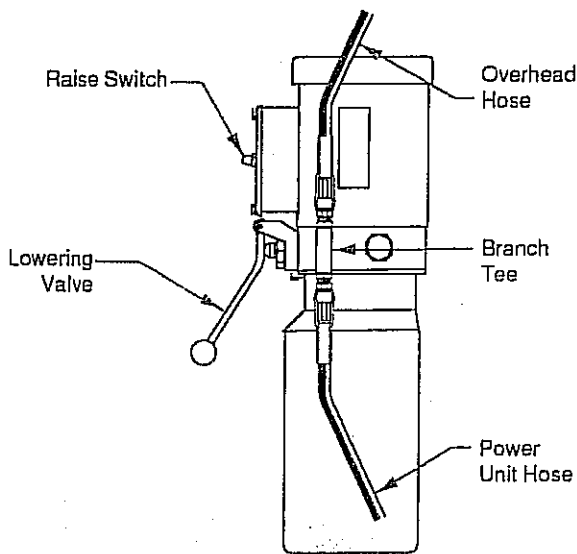

Fig. 7
**9. Power Unit:** First install (1) star washer onto one of the (4)  $\frac{5}{16}$ " x  $\frac{3}{4}$ " Lg. bolts. **This is very important for grounding.** Put the (4)  $\frac{5}{16}$ " x  $\frac{3}{4}$ " lg. bolts thru holes in power unit bracket using push-nuts to hold in place. Mount unit with motor up to column bracket and install lock washers and nuts. Install and hand tighten Branch Tee to pump until O-ring is seated. Then tighten locknut to 35-40 ft.-lbs, and connect supply hoses to Tee, Fig. 7.